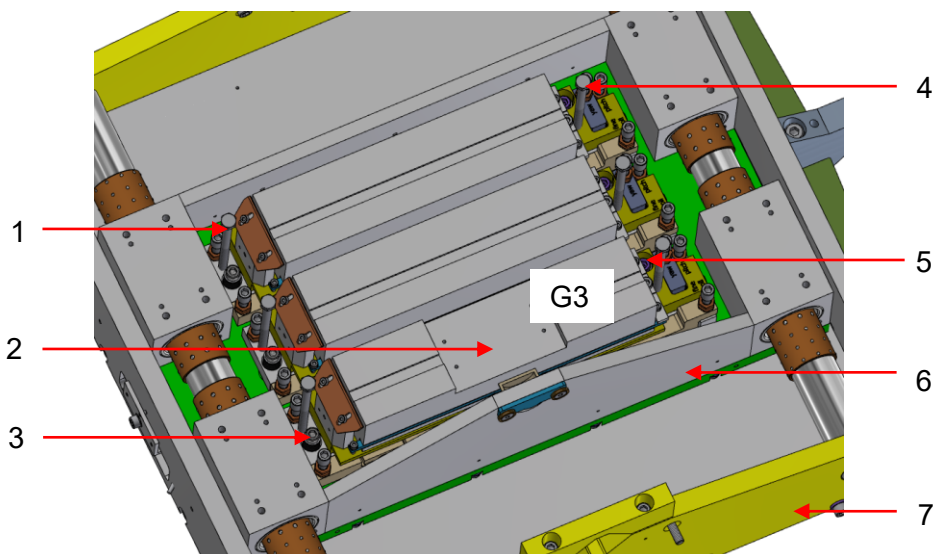

Figure 84: Grating cradle, top view
- E. Loosen and remove the two screws (#4 in Figure 84) at the connection rod of the sine-bar drive for the mirror rotation. Remove the clamp indicated in Figure 84, #1.
After removing the two spring loaded fixing screws (# 3, 5 in Figure 84) the grating holder (G3 in Figure 84) is free and can be lifted of the vacuum chamber by using two long screws as lifting aid, as shown in Figure 84, # 1, 4.
- D. Tighten the spring loaded fixing screws (#3, 5 in Figure 84).
- E. Dismount the two screws used as lifting aid (#4 in Figure 84).